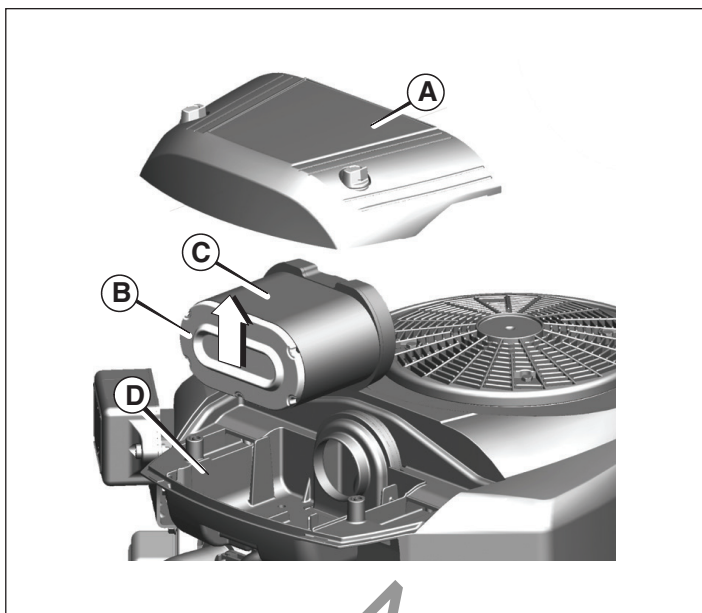

Figure 22
1. Remove the cover (**A**, Figure 22).